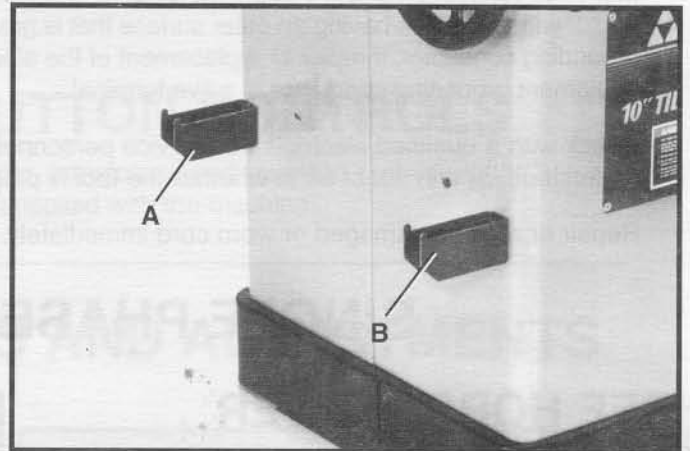

Fig. 38
1. Assemble the rip fence holder brackets (A) and (B) Fig. 38, to the four holes located in the left hand side of the saw cabinet using four 1/2" long self-tapping screws supplied.